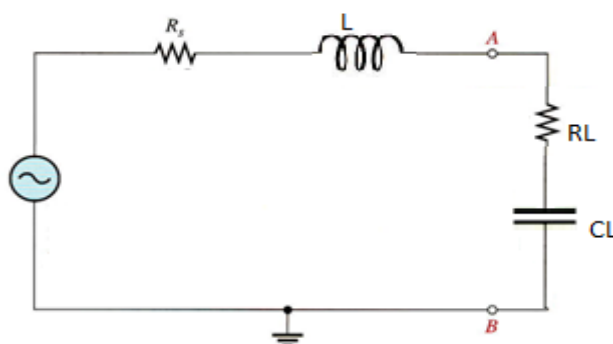

Figure 8.3: Schematic for an AC RLC circuit
Consider the circuit given in Figure 8.3, to transfer maximum power to the load terminals AB, the load connected here should be complex conjugate of the network impedance. The total impedance seen from the terminal AB is equal to the Thevenin Impedance.
1. Calculating the Thevenin Impedance: Consider the circuit of Figure 8.3. with $R_s = 330\Omega$ and $L = 10\text{mH}$ but leaving off the load components. Replace the Input AC source with a short wire and calculate the total impedance seen from AB terminals. Let, the system frequency be 5 kHz. Express it in rectangular form.
4. Simulate the circuit in Figure 8.3 on PSpice using the calculated values of load, take $V_S = 1V$ and $f = 5\text{kHz}$.